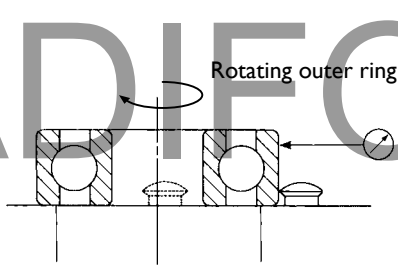

Figure 2-6
- Outside Cyl. Surface Runout w/ Side (S_D) Figure 2-6